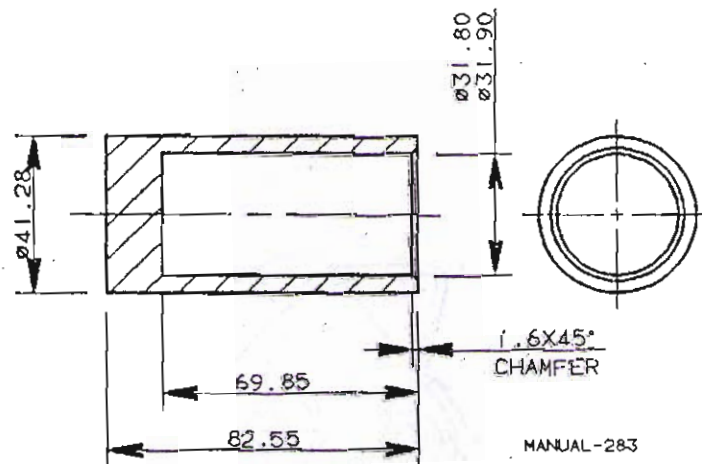

Fig. 6 - Insulator Stud Installation Tool
A sleeve-type tool made of half-hard brass, Fig. 6, should be used for pressing the studs into the brush holder.
3. Select proper oversize stud. Ensure that  $0.05 \text{ mm} \pm 0.025 \text{ mm}$  ( $.002'' \pm .001''$ ) press fit is obtained. Press in stud using sleeve-type tool, Fig. 6. Clearance between the stud shoulder and brush holder must be maintained to ensure the insulation does not get damaged against the brush holder.